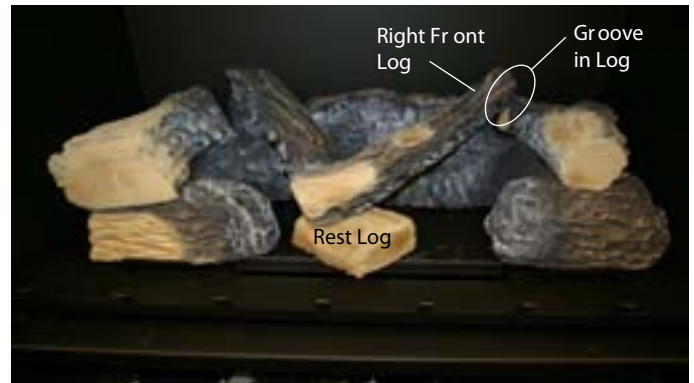

Figure 10e. Placing Right Center Log.
**Step 7.** Place the Right Centre log as shown in **figure 10e**.